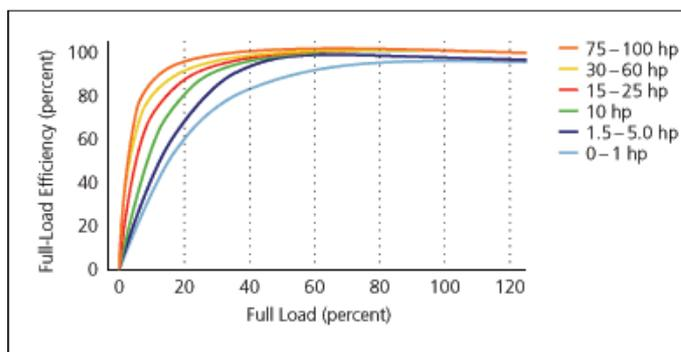

Fig.1
- a. Loading (efficiency drops substantially as the loading reduces below 50%. Refer fig.1)